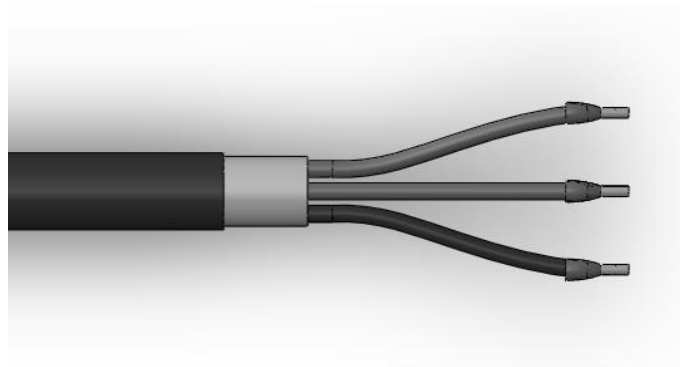

Fig.3: Wire with ferrule
- b) Fig.3 shows how to properly connect wire to the motor and mains terminals